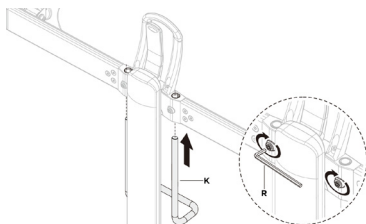

Figure 11
- Slide the **Grab Handle, Lower** into its receptacles on the **Crossbar Mount, Upper** and slide it to the desired location based upon the size of the monitors being installed. Then, using the **4mm Hex Key**, fasten the **Grab Handle, Lower** to the **Crossbar Mount, Upper** by carefully tightening the fasteners on the back of the **Crossbar Mount, Upper**. As shown in Figure 11.